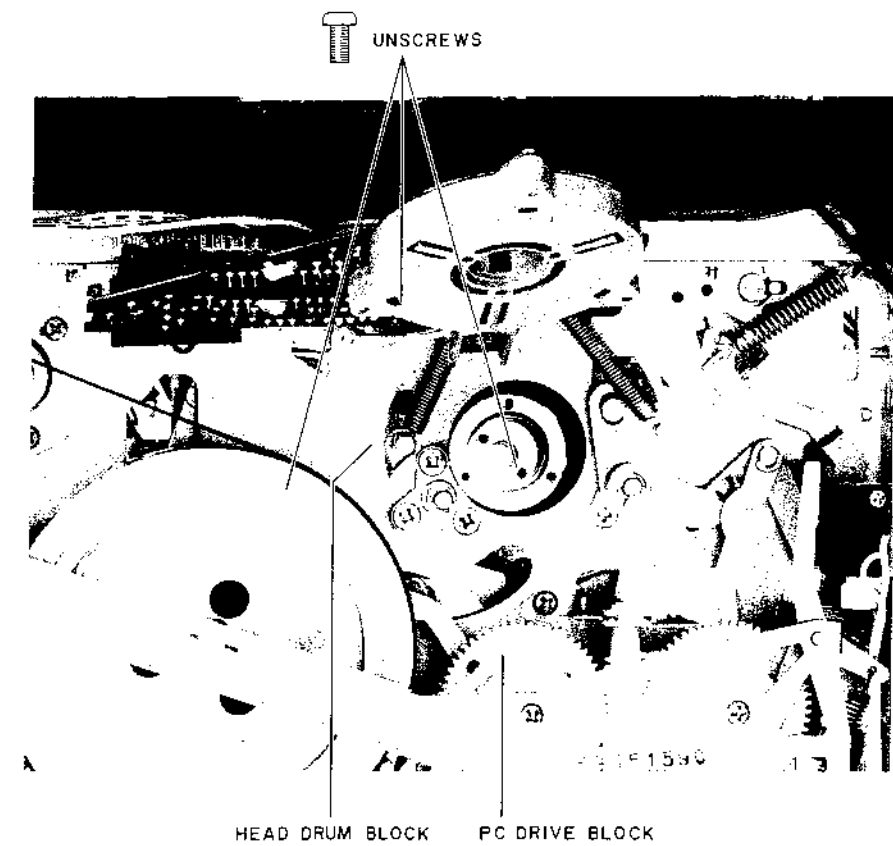

Fig. 6-4
- 6) Remove three screws fixing Lower Drum Assembly from the bottom as shown in Fig. 6-4.